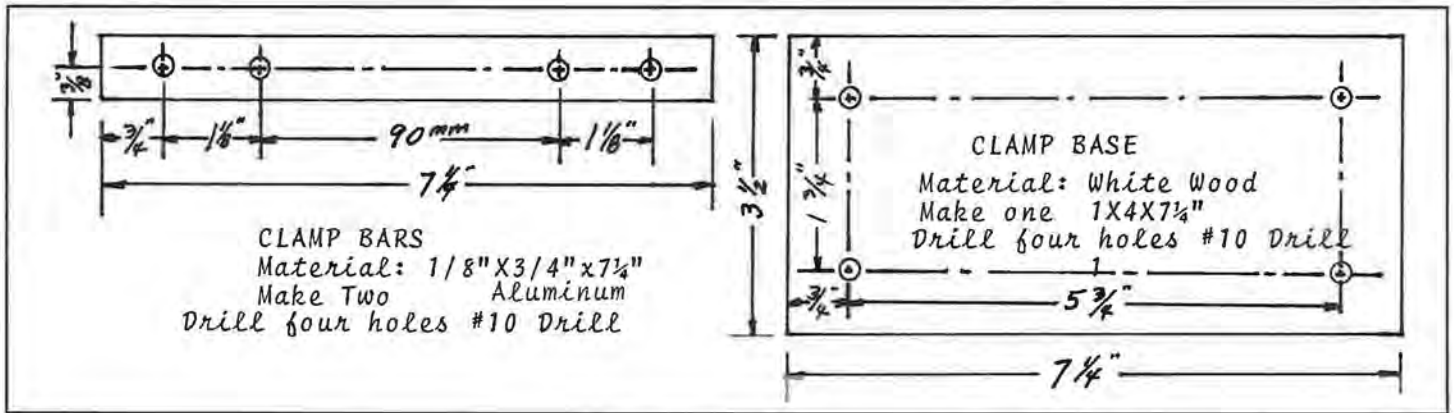

Figure 1.
*Step 1.* Make a clamp as detailed in Figure 1.